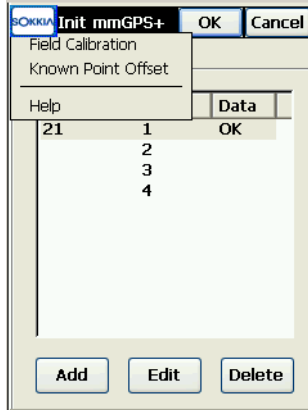
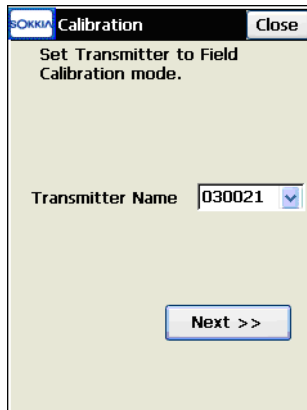

Figure A-13. Open Field Calibration
Figure A-14. Select Transmitter to Calibrate
3. With the controller and sensor connected, tap **Setup GPS ▶ Init mmGPS**. The *Init mmGPS+* screen displays (Figure A-13 on page A-9).
- On the *Init mmGPS+* screen, tap the Help Icon menu in the upper-left corner of the screen and select **Field Calibration** (Figure A-13). The *Calibration* screen displays (Figure A-14).
- On the *Calibration* screen, select the transmitter that will be calibrated from the *Transmitter Name* drop-down list and tap **Next** (Figure A-14).